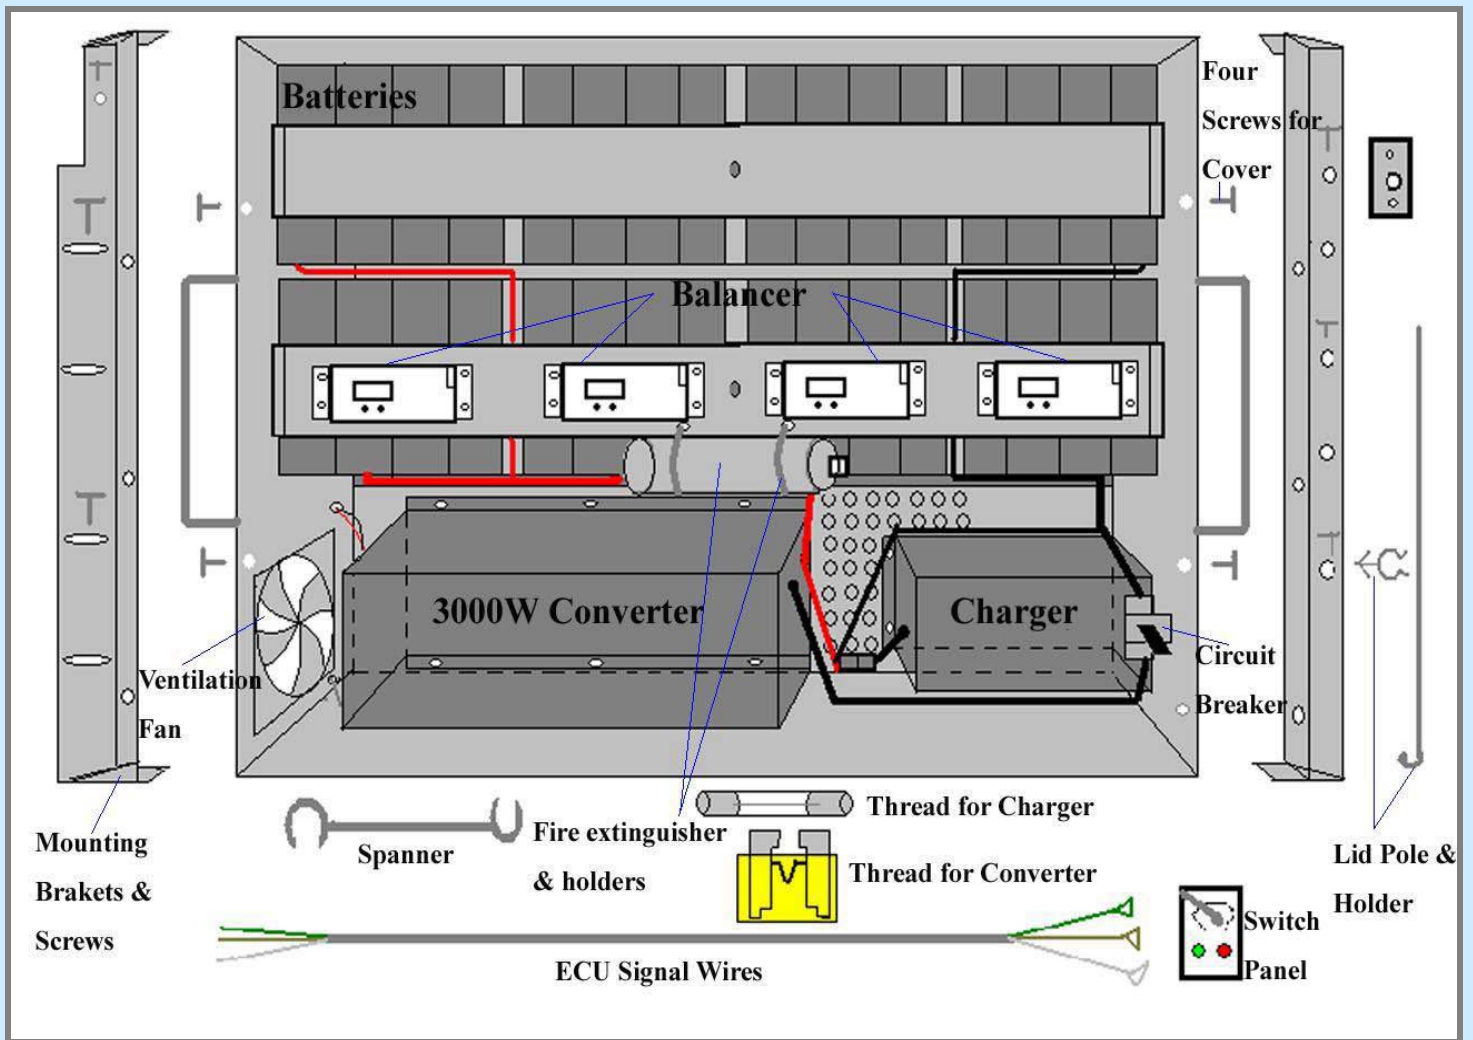

Figure 1: Component Layout
9. Wiring Check: ① Make sure circuit breaker is in the OFF position, Anderson plug from charger / converter is disconnected, balancers' interfaces are pulled off; ② Charger and converter connections are connected firmly; ③ Connection between black wires from converter and circuit breaker is connected firmly; ④ Connection between circuit breaker and another black wire is connected firmly. ⑤ Positive and negative of each group of batteries are connected firmly (16 cells in series, two 16 cell packs in parallel shown in FIG1), terminal plastic covers are in position.